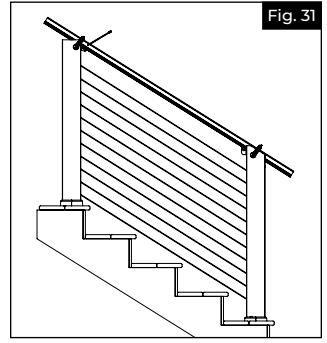

Fig. 31
- Clamp top beam on the side of the stair posts aligning it with the brackets. Mark the beam at the posts (Fig. 31). Cut the top beam on that mark and on that angle.